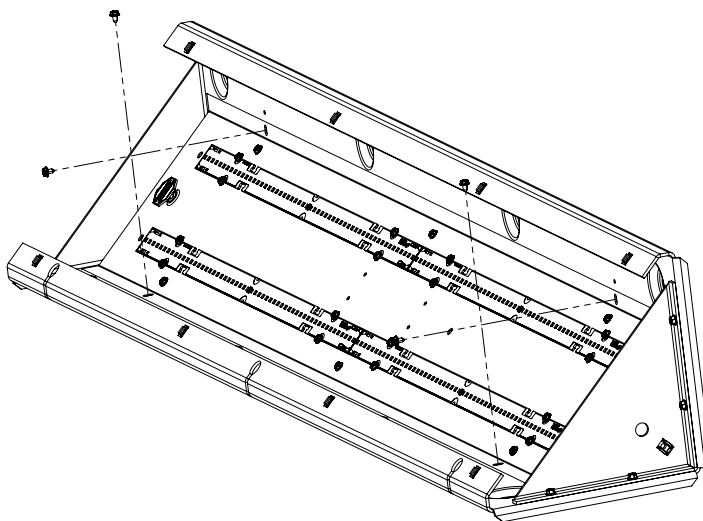

Figure 2.
Step 3. Remove 4 white screws from the reflector. Save the screws as you will need them to reinstall the reflector. (Figure 2)